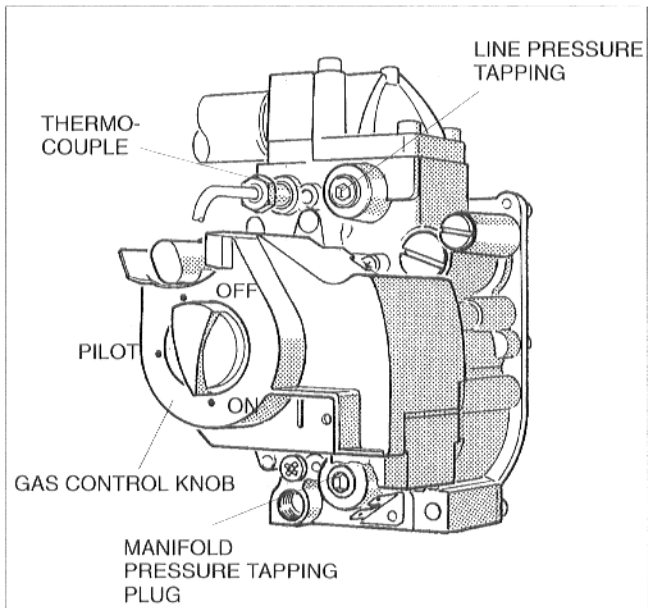

Fig.2
Turn the gas control manual valve clockwise  to the full "OFF" position, fig. 2.
32. Shut off the main gas supply shut–off valve. Remove the line pressure tapping plug from gas control, fig. 2; install a test fitting, and hook up a manometer so that line pressure can be checked.
33. Remove the manifold pressure tapping plug from the gas control, install a test fitting and hook up a manometer so that manifold pressure can be checked, fig. 2.